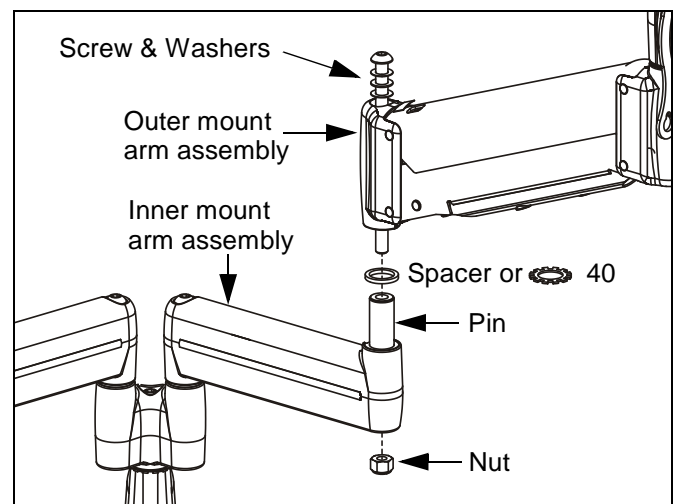

Figure 11: Multi-Dual Arm Modification
2. Using 3/16" hex key, loosen screw until nut can be removed (See Figure 11). Retain nut. Screw and washers may remain in outer mount arm assembly.
4. Remove spacer from pin (See Figure 11).
5. Install washer (40) on pin (See Figure 11).
6. Re-install outer mount arm assembly (with screw and washers) on pin (See Figure 11).
7. Insert and hold nut in lower bore of inner mount arm assembly (See Figure 11).
8. Tighten screw as required using 3/16" hex key (See Figure 11).